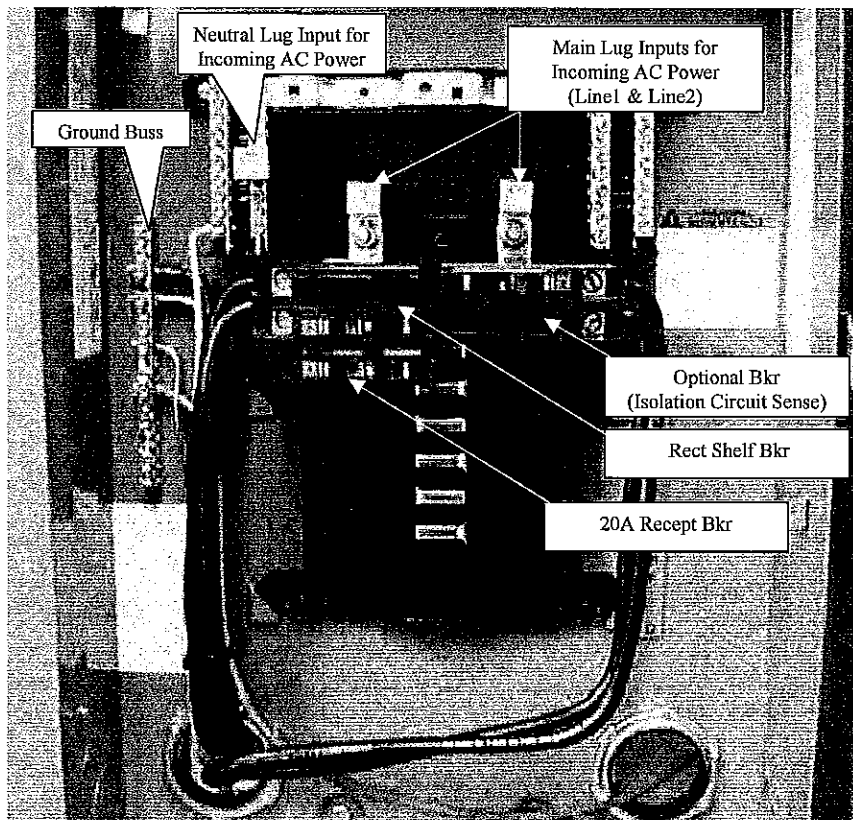

Figure 5. SquareD Load-Center Layout
3. Since there is no local “disconnect breaker,” the incoming “hot” conductors (Line1 & Line2) should be connected to the “Main Lug Inputs” located above the pre-installed breakers (see Figure5).
4. The Neutral (white) conductor should be installed to the large lug location on the load-center’s neutral buss located to the left of the Line1 & Line2 lugs. (see Figure5)
5. The Ground (green) conductor should be installed into an available position in the load-center’s ground buss located on the left side in the cabinet. (see Figure5)